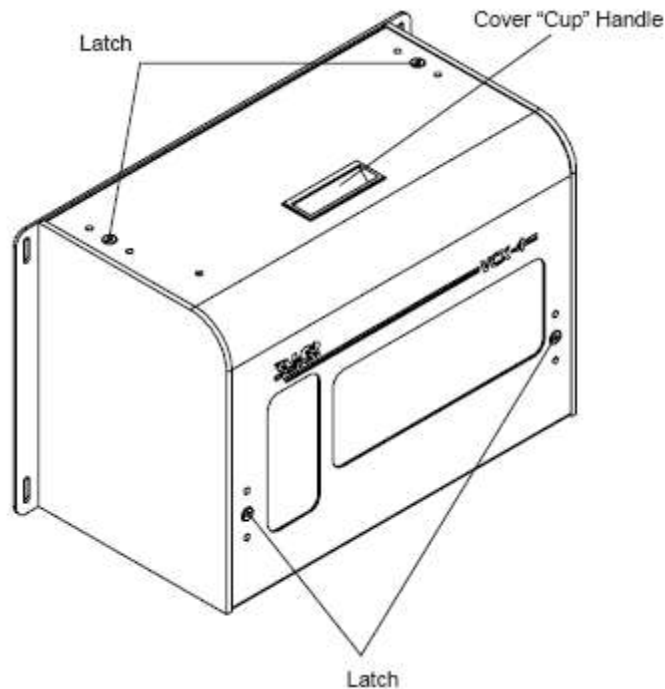

Figure 4-1. Remove the VCX Control Cover
To remove the cover of the VCX Control, use a hex wrench to turn the hex latches 1/2 turn to unhook the 4 latches that lock the cover onto the base (see Figure 4-1). Carefully remove the cover by grasping the cover "cup" handle and lifting the cover off of the unit. Reverse this procedure to replace the cover.
3. Remove the covers from both VCX Controls (see Figure 4-1).
6. Replace the covers on both VCX Controls (see Figure 4-1).